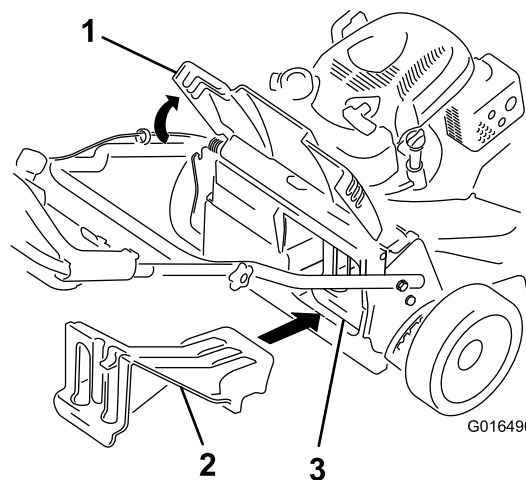

Figure 26
- If the rear-discharge plug is not installed, grip it by the handle, raise the rear deflector, and insert it into the rear-discharge chute until the latch locks into place; refer to Figure 26.
Important: Ensure that the rear-discharge plug is in place before you recycle the clippings (Figure 26).